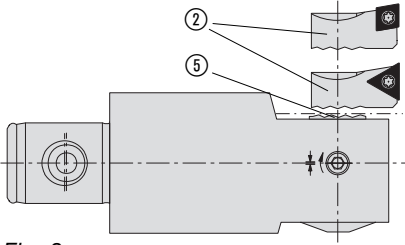

Fig. 3
The adjusting spindle ⑤ is especially profiled to fixed quick and easy different insert holders ② (Fig. 3).